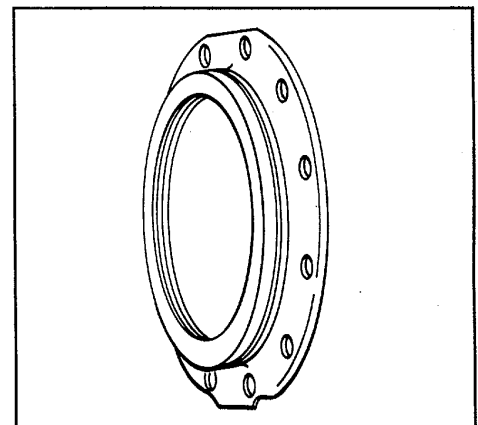

Figure 2.
3. Place the oil seal and retainer assembly (refer to Fig. 2) over the studs and install the stud nuts.